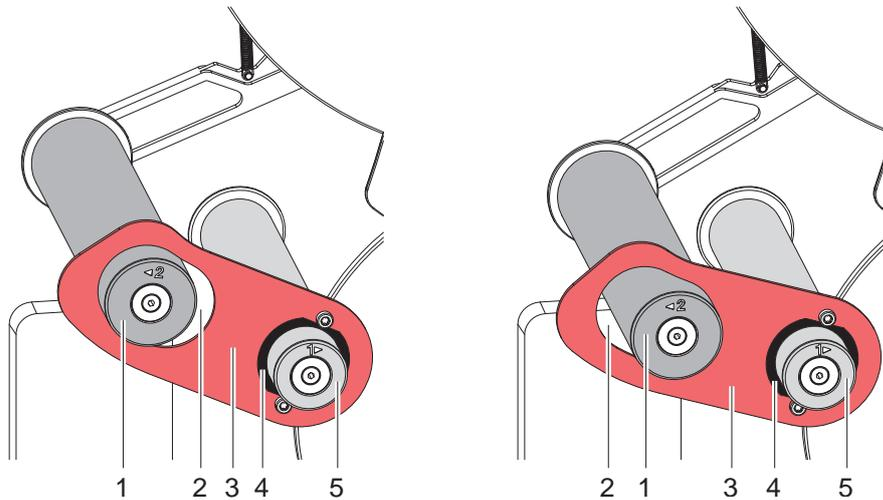

Figure 20 Checking the switching point of the brake
1. Press down the swing arm with the guide roller (1).
2. Push the collar (4) of the gauge (3) onto the guide roller (5) and insert the guide roller (1) into the slot hole (2).
3. Release the swing arm. The guide roller (1) moves to the upper end of the slot hole (2) (Figure 20 left side).
4. Press down the swing arm so that the guide roller (1) touches the lower end of the slot hole (2) (Figure 20 right side).